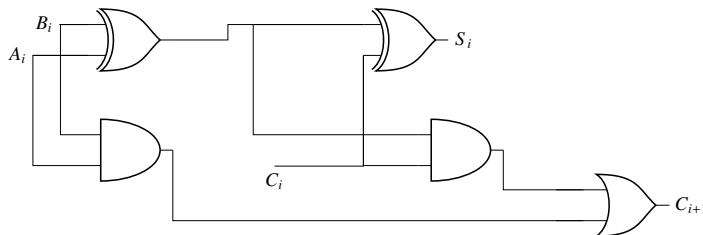

Fig. 3.13: Full Adder
27. Fig. 3.13 shows the  $i$ th full-adder block of a binary adder circuit.  $C_i$  is the input carry and  $C_{i+1}$  is the output carry of the circuit. If the inputs  $A_i, B_i$ ; are available and stable throughout the carry propagation, find the outputs  $S_i$  and  $C_{i+1}$ .